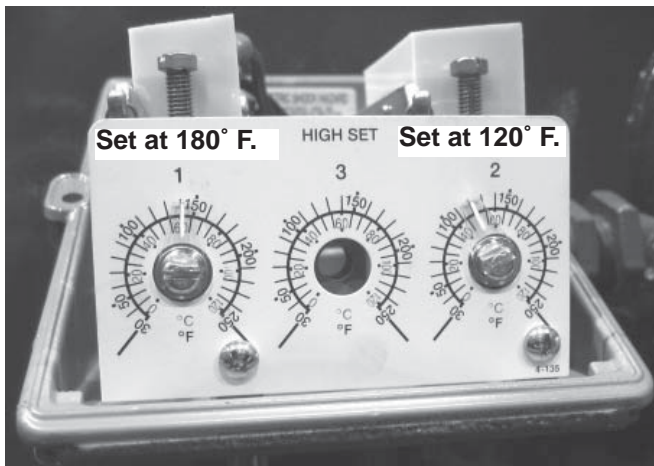

Figure 14 - Temperature Switch
**Dual Oil Temperature Switches** Installed in the WE-4 system to prevent damage caused by high temperatures. Temperature switch Dial #2 set at 120°F (see Figure 14) turns the cooler fan motor on and off (if equipped). Dial #1 set at 180° F stops the pump motor at the high setting. See wiring diagram 903057 and manufacturer's manual in your document pack for settings. Dial #3 is not used.